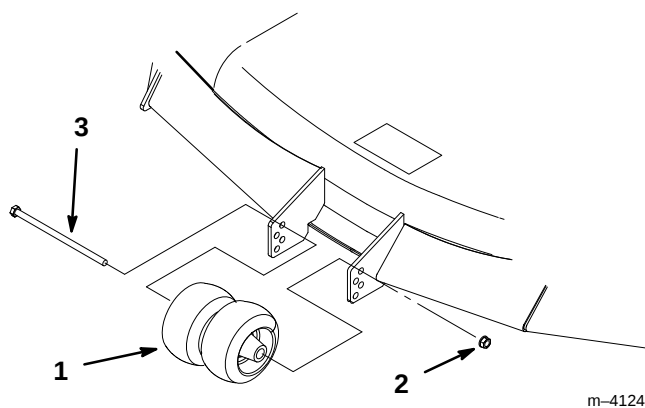

Figure 14
2. After adjusting height-of-cut, remove bolt and nut (Fig. 14).
3. Select hole so gage wheel is positioned to the nearest corresponding height-of-cut desired (Fig. 14).
4. Reinstall the bolt, center rollers and nut (Fig. 14).